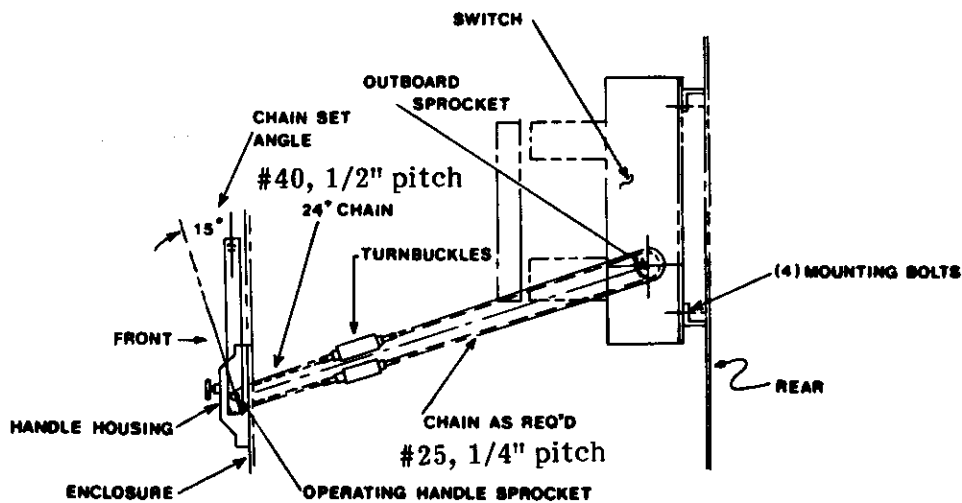

Figure 2
3. Position the outboard sprocket of switch as required and align it with the operating-handle sprocket position. See Figure 2 on page 4.